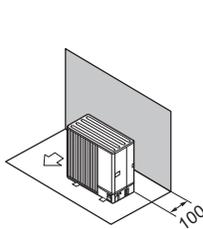

Fig. 2-9
- (1) Obstruction or closed surface at rear only (Fig. 2-9)